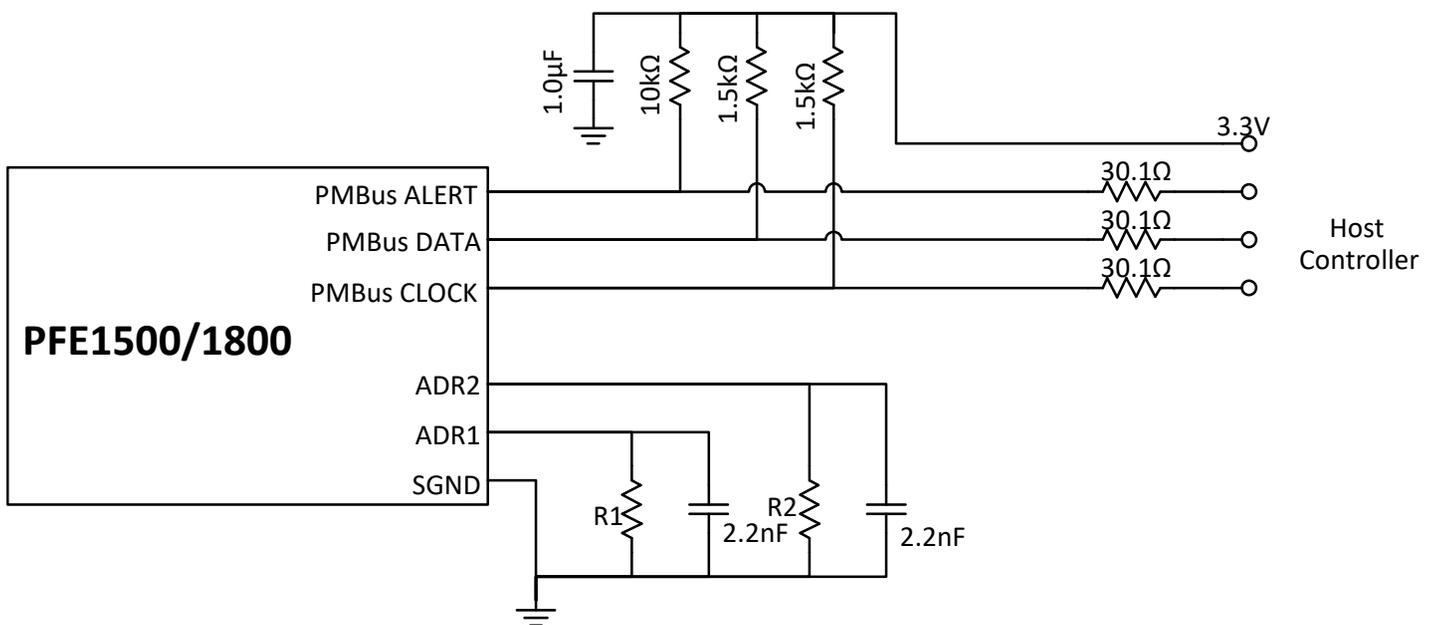

Fig 8-12 PMBus Addressing Configuration
**NOTE:** When the PMBus feature set is being used, resistors are required to configure the device address as shown in Figure 8-12. For resistor values, please refer to the TDK-Lambda PMBus Specification and Application Note. External 2200 pF capacitors should be placed in parallel with the address resistors, from the PMBus\_Add1 pin to SGND and PMBus\_Add2 pin to SGND.